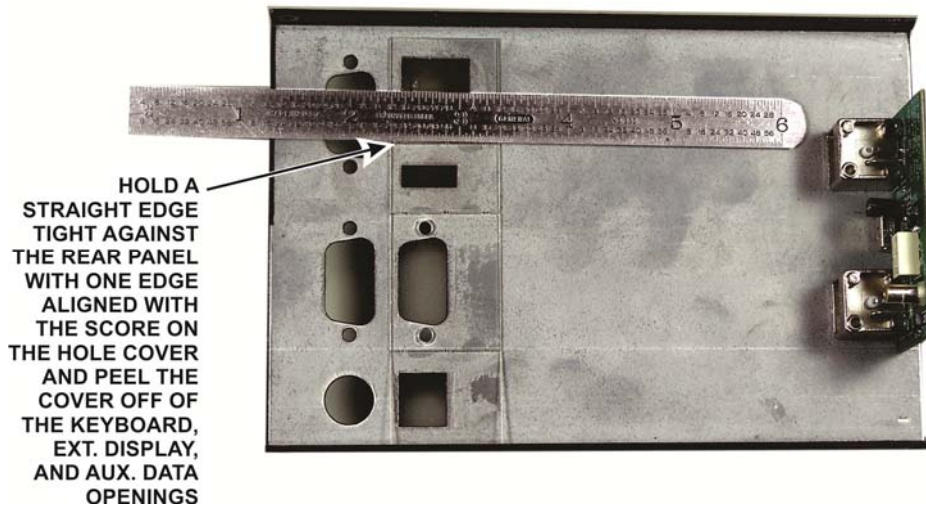

Figure 5. Removing Hole Covers.
□ Remove the plastic covering from the AUX. DATA, EXT. DISPLAY and KEYBOARD openings on the rear cover, but leave the covering over the SENSOR opening (see Figure 5). The plastic cover will snap apart at the score mark as you bend it away from the panel.